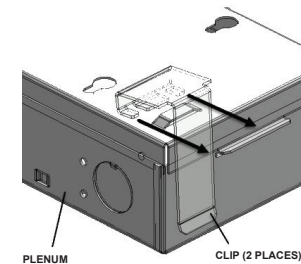

Figure 16 Clip Installation
2. Install the clips on the notched fittings of the TCM plenum top cover. See Figure 16 in the previous section.